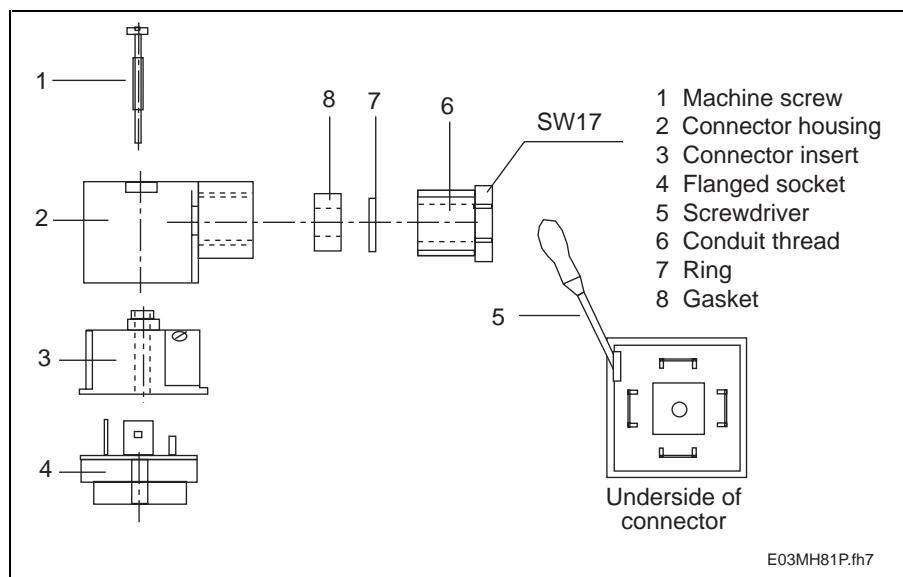

Fig. 15-4: Mounting the connecting cable at the blower connector
- ⇒ Pry connector insert **3** out using screwdriver **5** (see Fig. 15-4) and pull out of connector housing **2**.